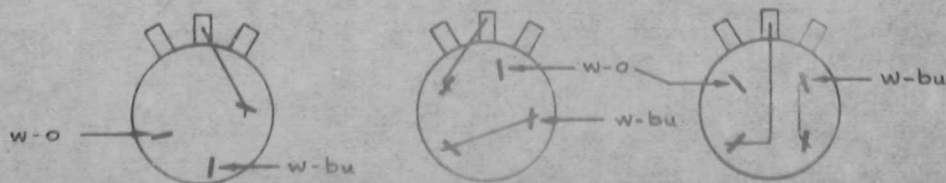

FIG. 2
- 2) The PRESET switch terminal configuration on the potentiometer assembly may vary. Fig. 2 shows the proper connection for the white-blue wire in each case.